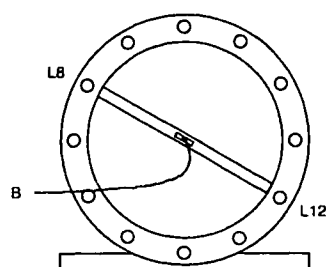

Figure 6 Flux probe in position L8 - L12, seen from patient support end
10. Position the linear flux probe in position L8 - L12 (see Figure 6). The flux probe holder must be positioned against the front ring of the head coil. The flux probe holder must be used without the 360° rotation knob.